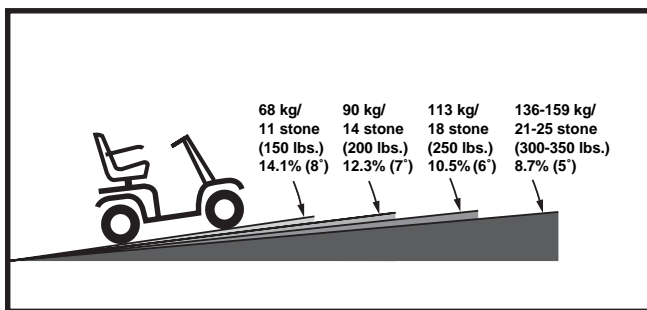

Figure 1. Maximum Recommended Incline Angles (3-wheel)
**WARNING! Even though your scooter is capable of climbing slopes greater than those illustrated in figures 1 and 1A, do not, under any circumstances, exceed the incline guidelines or any other specifications presented in this manual. Doing so could cause instability in your scooter, resulting in personal injury and/or damage to your scooter.**
Handicap public access ramps are not subject to government regulation in all countries and therefore do not necessarily share the same standard percent of slope. Other inclines may be natural or, if man-made, not designed specifically for scooters. Figures 1 and 1A illustrate your scooter's stability and its ability to climb grades under various weight loads and under controlled testing conditions.
**WARNING! Any attempt to climb or descend a slope steeper than what is shown in figures 1 and 1A may put your scooter in an unstable position and cause it to tip, resulting in personal injury.**